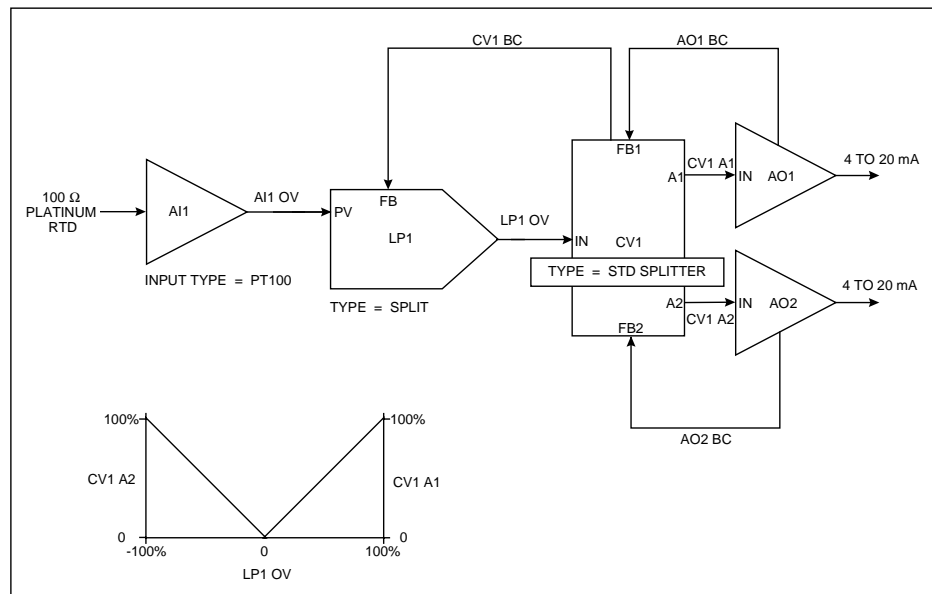

Figure 3-24 Function Block Diagram Of Figure 3-23
In Figure 3-24, the analog input function block AI1 is depicted processing the resistance values produced by the RTD. The resulting water temperature measurements (AI1 OV) are then fed to the process variable input (PV) of the LP1 control loop block. Note how LP1 has been defined as a split output control loop using the notation “TYPE = SPLIT.” Unique to this control loop is the defined range of its output value, LP1 OV. Where the standard control loops mentioned thus far have had outputs ranging exclusively between 0 and 100%, the % values of the split output control loop vary between -100 and 100. 0% is considered the midpoint for this control loop’s output range. When brought on-line, a 0 to 100% output value will be generated by LP1 when hot water is needed to maintain the temperature at set point. When the addition of cold water is necessary, the loop’s output will assume a value between 0 and -100%. Note that to externalize the control signals generated by LP1, two analog output blocks, AO1 and AO2, will be used. AO1’s 4 to 20 mA signal will be tied to the hot water valve actuator, while the actuator that adjusts the position of the cold water valve will receive its mA control signal from AO2. To provide AO1 and AO2 with usable input driving signals, LP1’s output will be applied to a function called a “standard splitter (STD SPLITTER).” Made from one of the instrument’s calculated value function blocks (“CV’s”), the standard splitter will essentially be a mechanism that translates the % values of the split output control loop into two distinct 0 to 100% signals. They will be applied to the inputs of AO1 and AO2 and, as such, will drive and linearly correspond with AO1 and AO2’s 4 to 20 mA outputs.
The two outputs on CV1 that will drive AO1 and AO2 are respectively labeled “CV1 A1” and “CV1 A2.” CV1’s basic operation is described by a plot of these outputs versus LP1 OV. Shown in the lower left of Figure 3-24, the plot demonstrates that CV1 will produce a 0 to 100% value at its CV1 A1 output when LP1 calls for an output level between 0 and 100%. CV1 A2 will remain at 0%. When applied to AO1, the CV1 A1 value will activate the 4 to 20 mA signal needed at the hot water valve actuator to make the water temperature in the vessel rise. Similarly, when LP1 calls for an output level between 0 and -100%, CV1 will produce a corresponding 0 to 100% value at CV1 A2. This time, CV1 A1 will remain at 0% and the CV1 A2 value generated will induce the introduction of cold water into the vessel to cool its contents down.